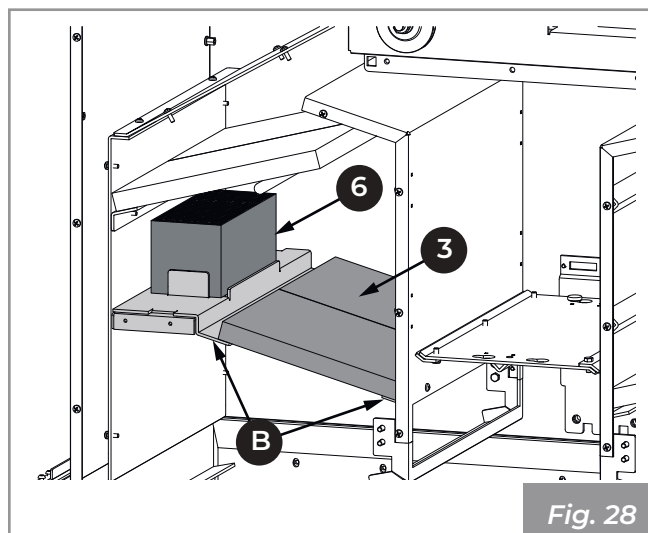

Fig. 28
- 3) Position the O-RING (6) by inserting it into the appropriate support.
- 4) Position the panels (3) resting them on the appropriate supports (B) (Fig. 28).